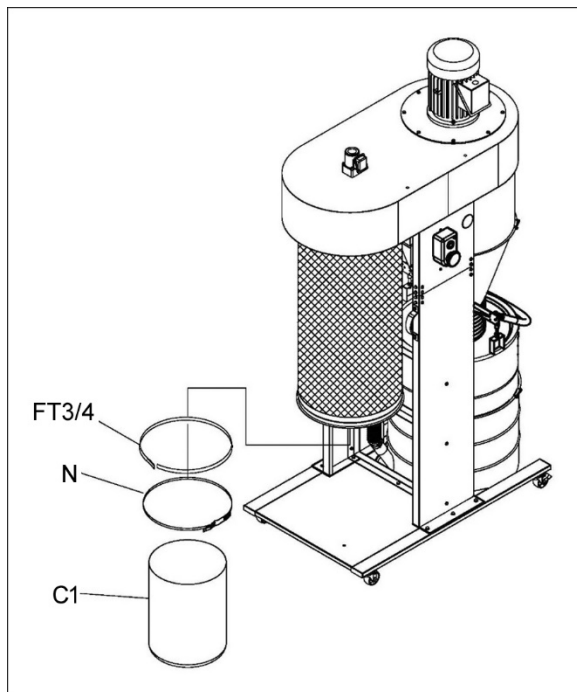

Figure 5-10
22. Apply 3/4Wx50L inch foam tape (FT3/4, Figure 5-10) to lower groove of canister filter, just above the lip.
23. Install canister collection bag (C1) beneath canister filter and secure with bag clamp (N).